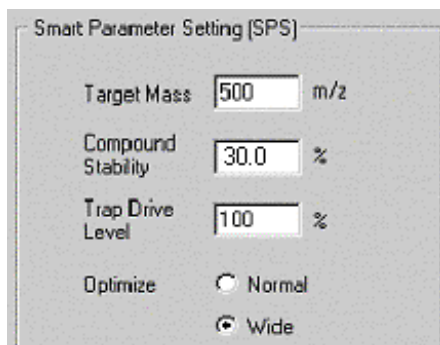

Figure 5. Ion optics settings.
3. The sensitivity of the instrument can be optimized for different mass ranges and different types of samples. The settings in Figure 5 have been chosen for good sensitivity for the expected mass range of this experiment.